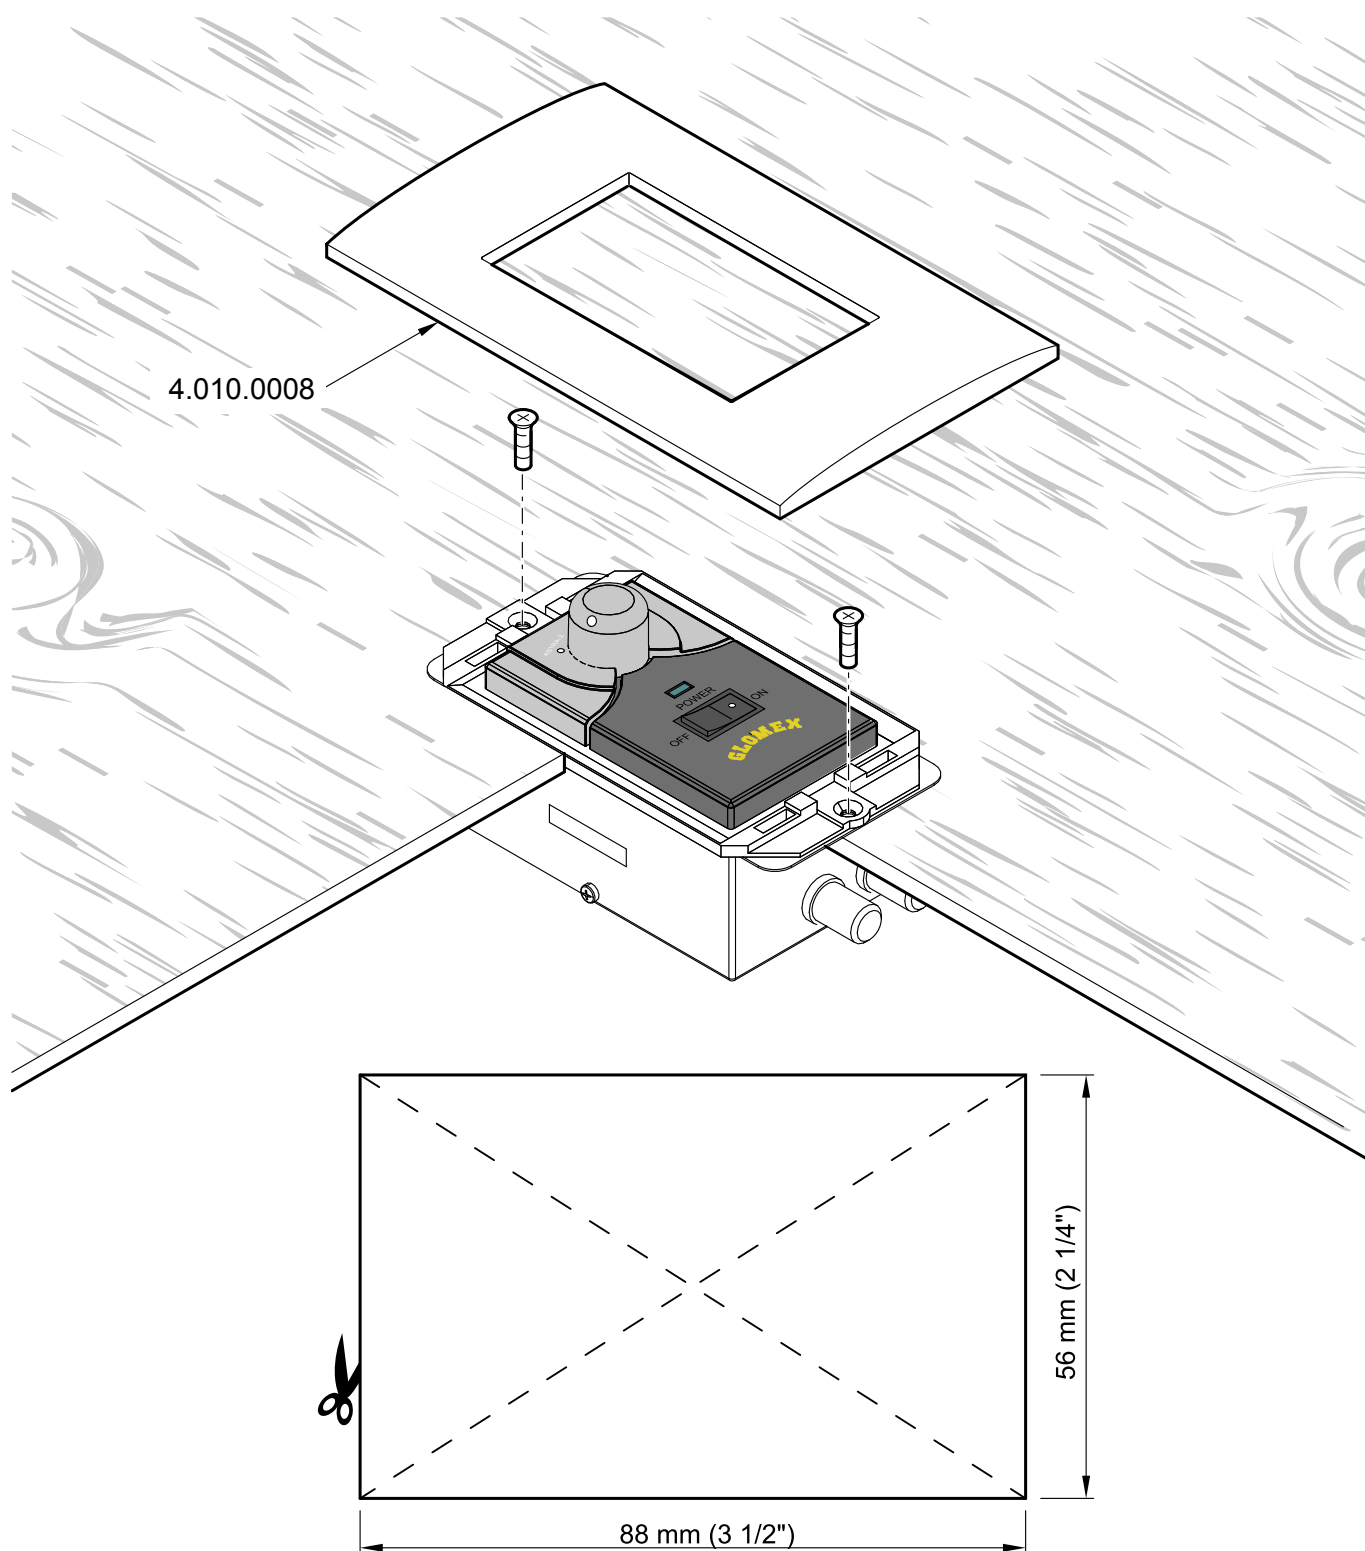

Fig. 17
4. Build in the control unit by using the GLOMEX accessory (code 4.010.0008) by boring a hole with a reciprocating saw and using the drill with 2.5 mm tip (use the cutting template in Fig. 17 for correct dimensions).